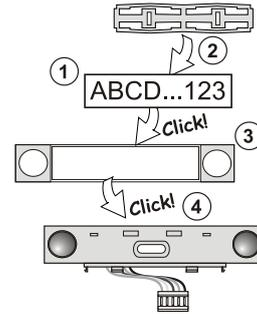

Figure 3: Insertion of a label into a control segment
6. Connect the BUS cable to the bus terminals (6).
7. Connect the segment wires to the internal connector of the module (5).
- a. When the device is switched on, the yellow backlit activation button (3) starts flashing repeatedly to indicate that the module has not been enrolled into the system.
- c. Press the backlit activation button (3) – the access module is thus enrolled and the yellow LED indicator goes off.
10. When you have completed the installation, insert descriptive labels onto the segment transparent covers and close them, see figure 3. Label printing is a part of the F-Link software (**Devices** window, at the module position – **Internal settings**).